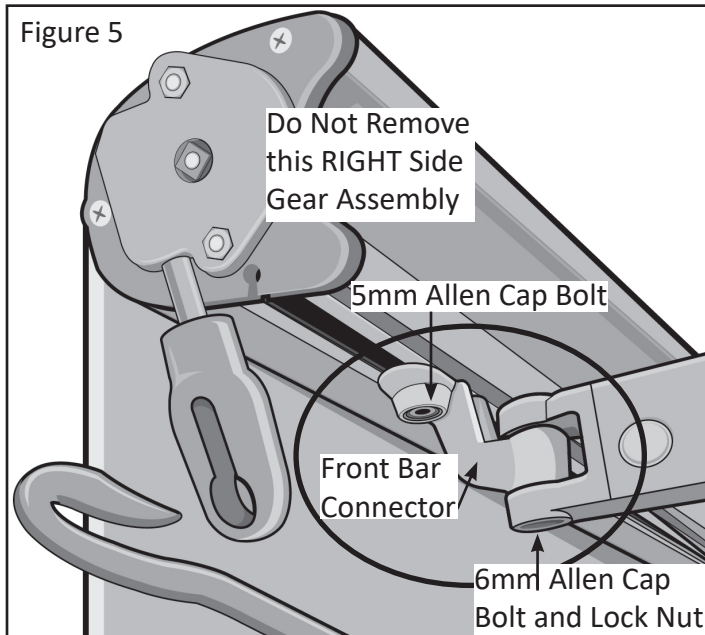

Figure 5
Use this section only if your Front Bar Connector looks like the one shown in Figure 5.
2. Using a 6 mm Allen wrench, remove the 6 mm Allen Cap Bolt and Lock Nut from the Front Bar Connector. See **Figure 5**.
11. Loosen, but do not remove the two 5mm Allen Cap Bolts where the Front Bar Connector clamps on to the Front Bar. See **Figure 5**.